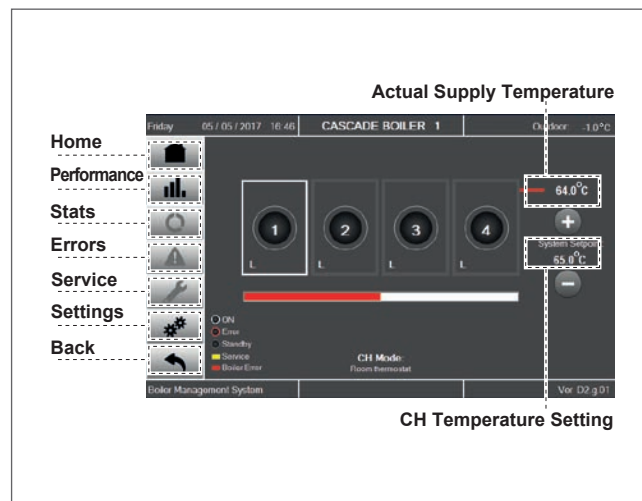

Fig. 53 Cascade Screen
- The boiler will fire only when there is a call for heat and the heating temperature setting is higher than the actual supply temperature. Hold buttons “+” or “-” on the Cascade screen (Fig. 53) to select the desired heating temperature. If the external temperature sensor is connected (see Section “4.5.2 Outdoor Temperature Sensor” pag. 21), check that the calculated temperature is higher than the actual boiler temperature and that the outdoor temperature is lower than “warm weather shut down” temperature.